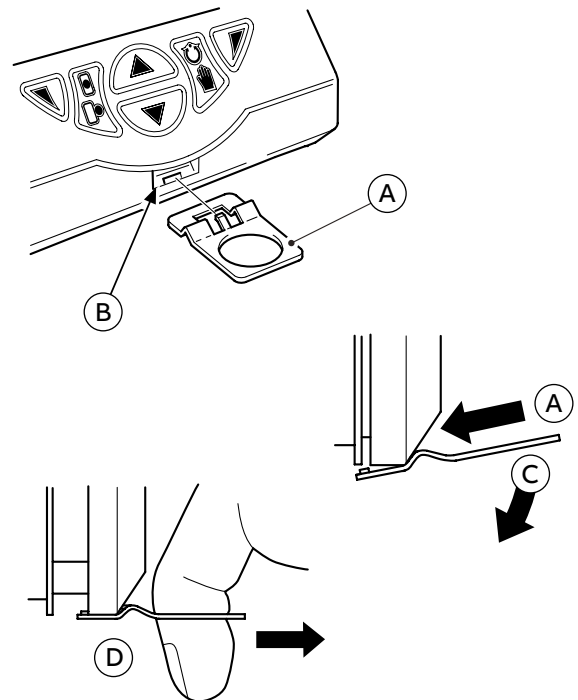

Figure 23 Removing the controller from its case
- 2 Referring to Figure 23:
- a Insert bezel release tool (A) (supplied) into front panel slot (B) below the function keys.
- b Press bezel release tool (A) fully in and then down (C) until the shoulder on the tool engages with the notch behind the controller front plate.
- c Pull bezel release tool (A) to withdraw the inner assembly from case (D).